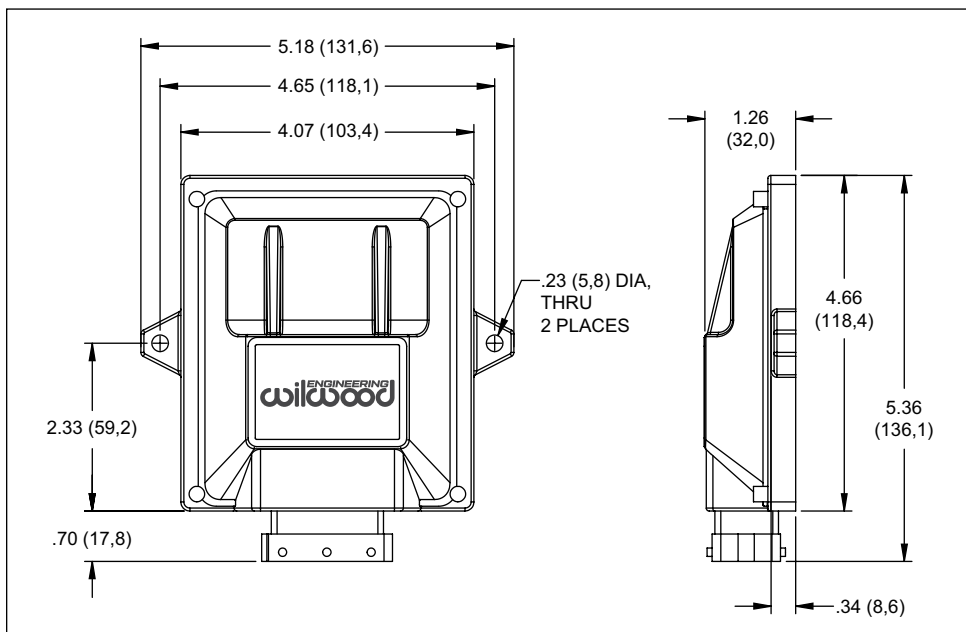

Figure 1. EPB Control Unit
- **EPB CONTROL UNIT (ECU)** - Securely mount the EPB control unit in a suitable location inside the vehicle, such as under the dash. **CAUTION:** Avoid mounting controller in proximity of alternator or ignition system components. Be sure to allow adequate access to the control unit cable connector. See Figure 1 for mounting dimensions.